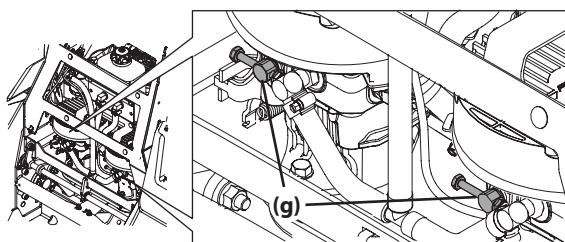

Figure 3
4. Locate the hydrostatic transmissions and open the two bypass valves (G) a maximum of two turns. See Figure 3.